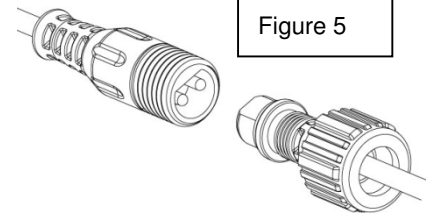

Figure 5
- 3) All the connectors are protected against reverse polarity as shown in Figure 5. Don't insert the plug with reverse polarity by using force.